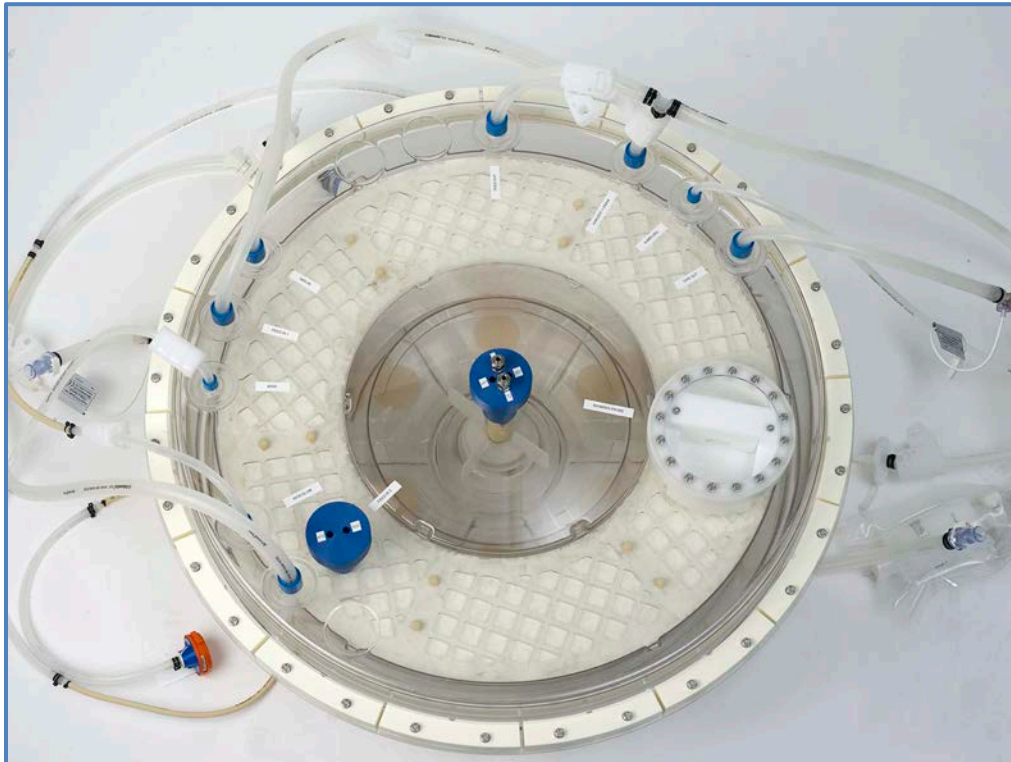

Figure 1: iCELLis 500+ bioreactor
- Different tubing and accessories such as integrated single use pH, DO, pressure and optional Biomass sensors (Figure 1).